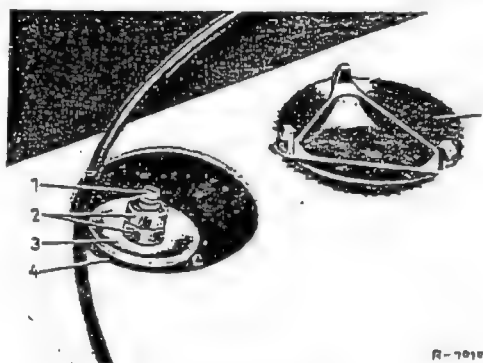

Fig. 32-3/1a
3. Remove the upper suspension components from the piston rod (Fig. 32-3/3 to 5).